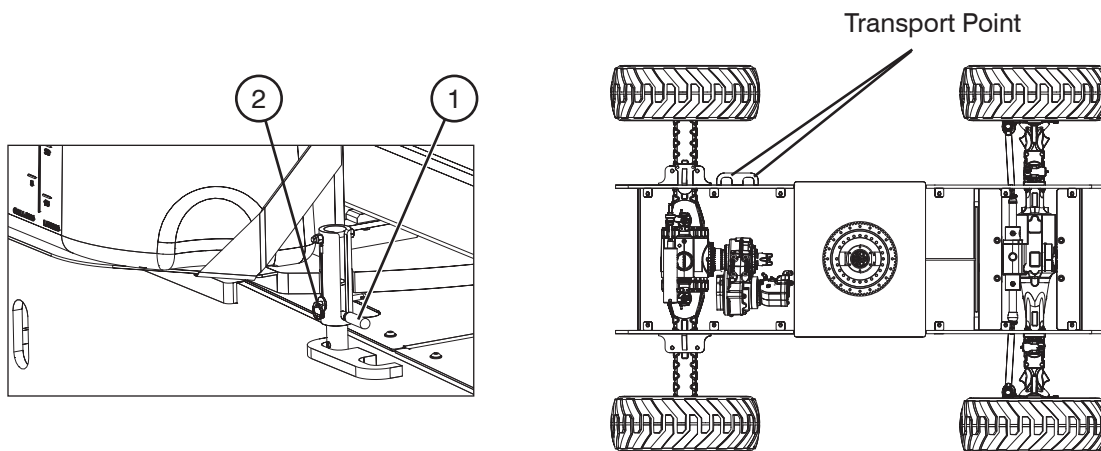

Figure 3-7. Turret Transportation Lock & Locking Points
1. Ensure that turret is positioned so that turret transportation lock tube (item 1 - Figure 3-7) is aligned into one of two turret locking points in the turret rotation lock plate.
2. Pull out turret lock retaining pin (item 2 - Figure 3-7). Lower turret lock into locked position and reinsert turret lock retaining pin.
1. Place boom in stowed position centered between drive wheels. Lock turret using turret transportation locking pin (refer to Section 3.10-2) into the transport point (refer to Figure 3-7).